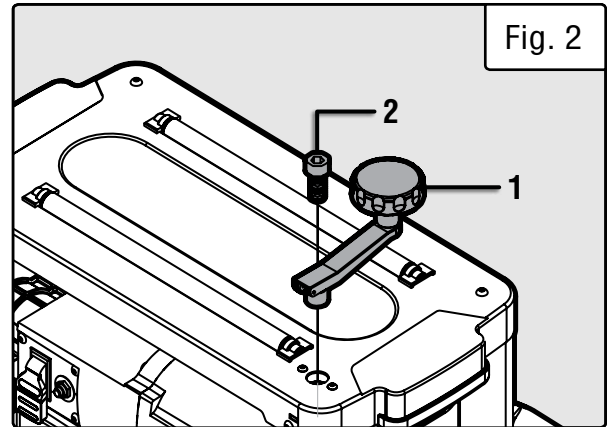

Fig. 2
1. Secure the depth adjustment handle (Fig. 2 - 1) to the top of the planer using the included socket head cap screw (Fig. 2 - 2).